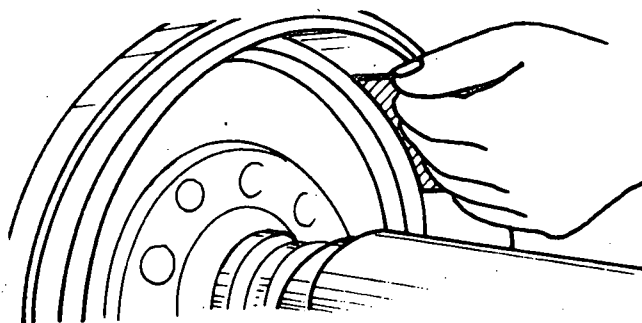

Fig. 4
f) Do the final polishing with an emery cloth, applying it with one's hand while the machine is in operation (fig. 4).